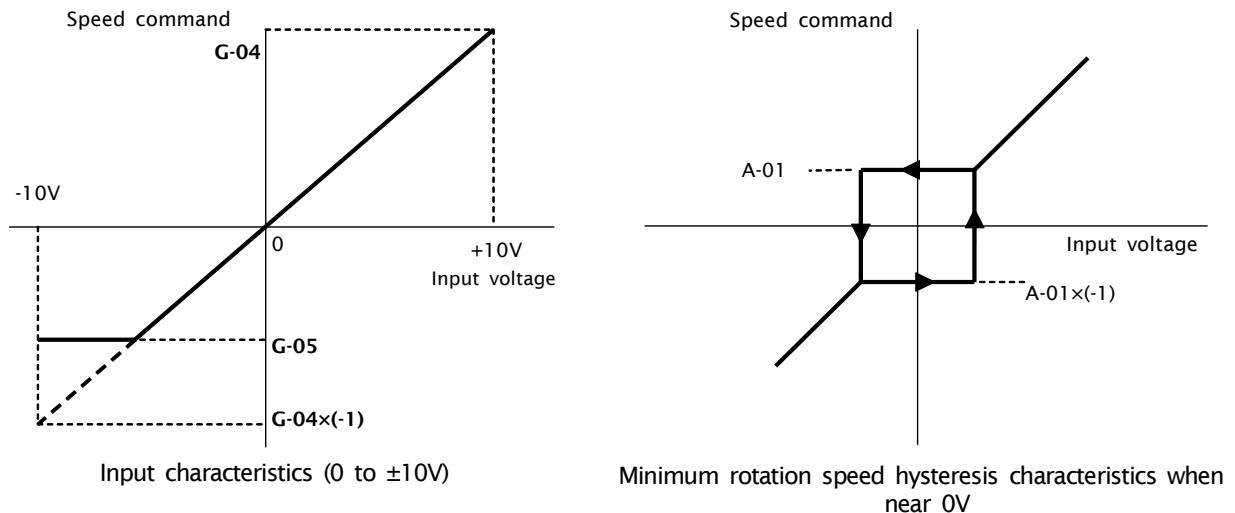

Figure 5.2 Speed command characteristics with voltage input of 0 to ±10V
The rotational direction can be reversed by setting the command input voltage to a negative value. The rotation speed command value is set as the analog input (2) rotation speed upper limit (G-04) when the input is +10V. When the input is -10V, it is set as the negative value of the analog input (2) rotation speed upper limit (G-04). However, it is possible to set a lower limit by setting the analog input (2) rotation speed lower limit (G-05). (Figure 5.2, left) If the minimum rotation speed (A-01) is other than “0”, the rotation speed command absolute value is controlled to prevent falling below the minimum speed. In this case, when the command input voltage is around the 0V range, its behavior shows hysteresis characteristics (It will run forward if started in the forward direction and will run in the minimum reverse speed if started in the reverse direction) as shown in the right side of Figure 5.2.